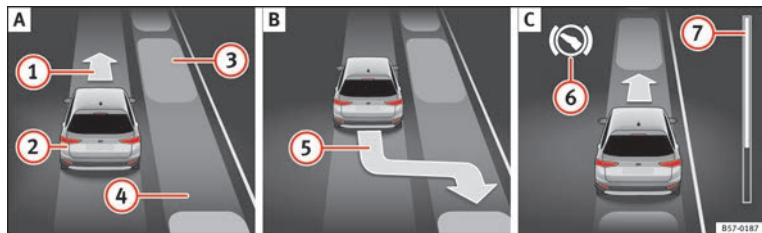
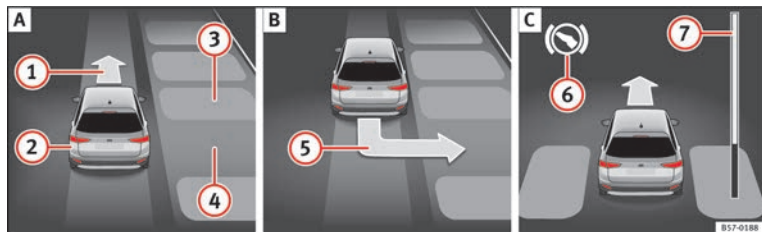

Fig. 220 On the instrument panel display: parallel parking. **A** Finding a parking space. **B** Parking position. **C** Manoeuvring.
Fig. 221 On the instrument panel display: perpendicular parking. **A** Finding a parking space. **B** Parking position. **C** Manoeuvring.
Key to **Fig. 220** and **Fig. 221**:
The progress bar **»» Fig. 220 ⑦** and **»» Fig. 221 ⑦** on the screen of the instrument panel displays the relative distance to be covered. The greater the distance, the fuller the progress bar. When driving forward, the content of the progress bar decreases upwards, and when reversing, it decreases downwards.
2.	Look at the display on the instrument panel to see if the space has been detected as “appropriate” and if the correct position for parking has been reached » Fig. 220 [B] or » Fig. 221 [B]. The space is considered “appropriate” if the display on the instrument panel shows the message to park [5].
6.	Reverse until the ParkPilot continuous signal is heard. OR: reverse until the instrument panel displays the message to go forwards » Fig. 220 [C] or » Fig. 221 [C]. OR: reverse until the instrument panel displays the message Park Assist finished. The progress bar [7] indicates the distance to cover » page 254.
9.	Go forward until the ParkPilot continuous signal is heard. OR: go forward until the instrument panel display shows the message to reverse. The Park Assist system steers the vehicle forward and back until it centres it in the space » Fig. 220 [C] or » Fig. 221 [C].